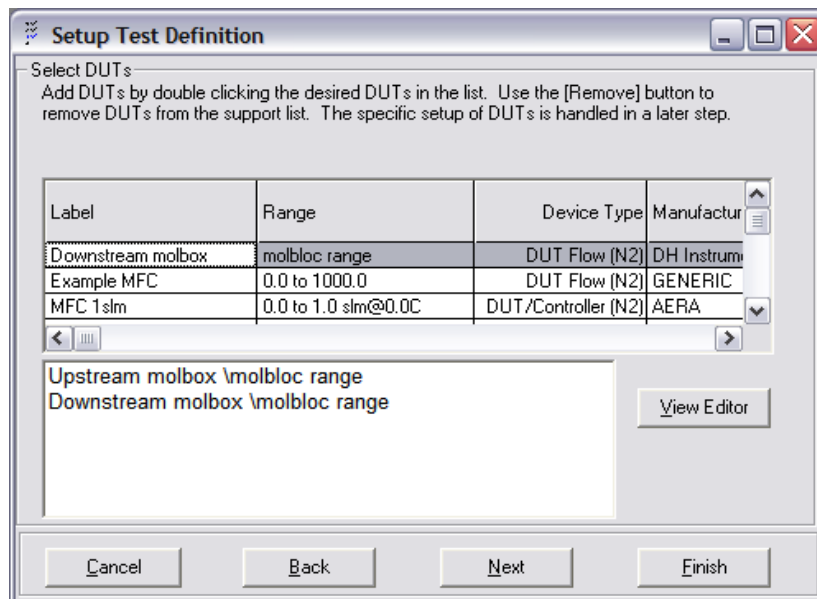

Figure 99. Run Test - Select DUTs window
- 3 Select the DUT(s) to be run (see Figure 99). Typically with a molbloc the molbox is the defined DUT, and the molbloc range and information are read into GFS Tools through the molbox interface. Select “Next”.
- 2 Select the DUT(s) to be run (see Figure 99). Typically with a molbloc the molbox is the defined DUT, and the molbloc range and information are read into GFS Tools through the molbox interface. Select “Next”.